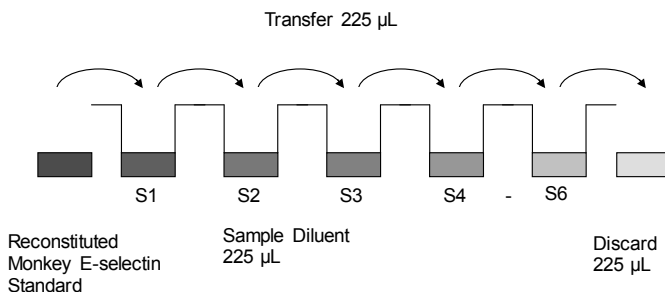

Fig. 5 Dilute standards - tubes
5. Repeat serial dilutions 4 more times thus creating the points of the standard curve (see Figure 5).